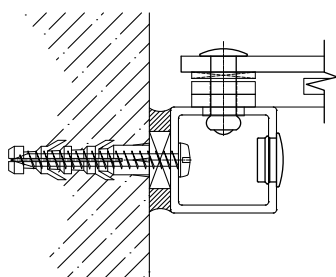

Fig. 4
c) Once the head rail and track are fixed in place, the end stile (wall stile) can be positioned accordingly and then through the fixing holes (already drilled), mark where to drill into the wall to fit the wall plugs. (Fig. 4)